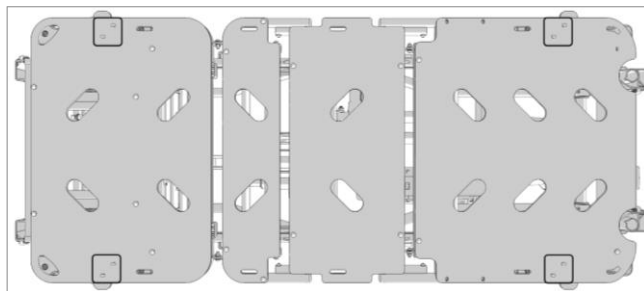

Figure 8.13
14. The Mattress Guides are installed in the four locations shown in Figure 8.13.